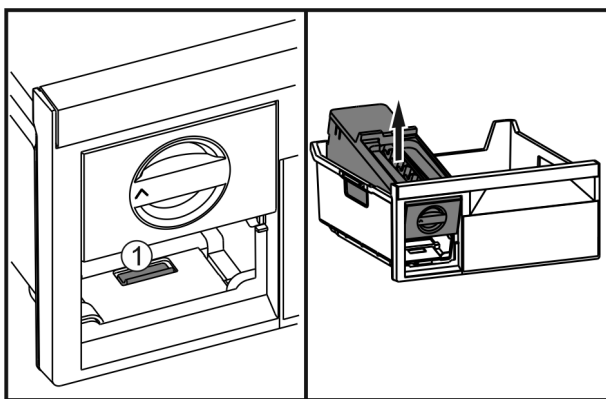

Fig. 55
- ▶ Press the lug Fig. 55 (1), lift up the EasyTwist-Ice at the back and take it out of the freezer drawer.